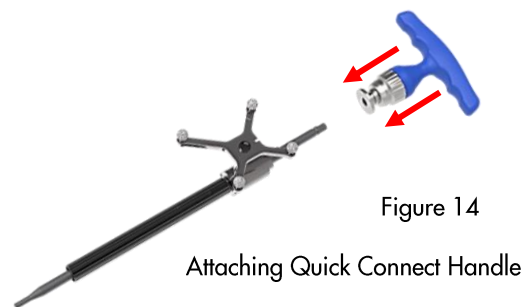

Figure 14
- Securely attach the desired Handle to the proximal end of the Instrument Shaft (Figure 14). Confirm secure engagement of the Handle by gently pulling on the Handle.